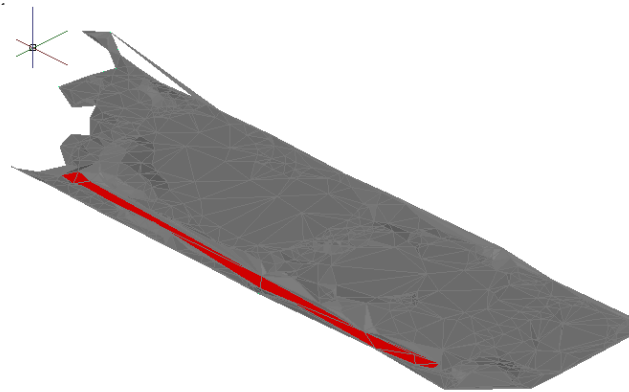

Figure 3-69 The realistic view of the surface after pasting the **E Street** surface over the **EG** surface
5. Choose the **View** tab and then select the **Realistic** visual style from the **Visual Style** drop-down list in the **Views** panel; the **E Street** surface is displayed, as shown in Figure 3-69.